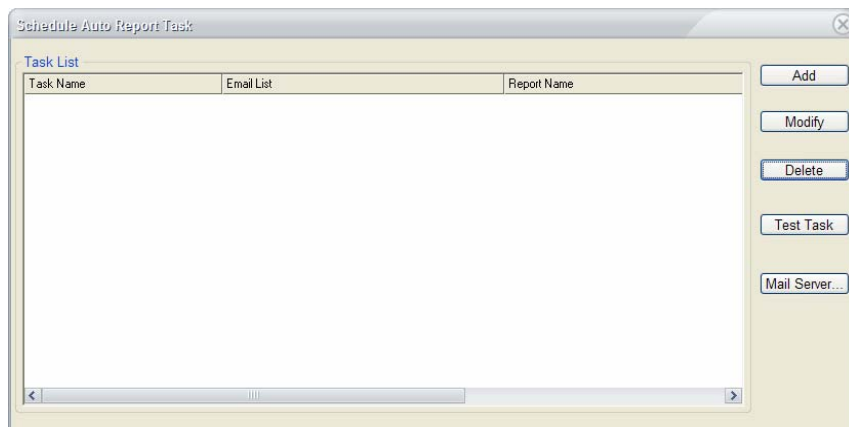

Figure 11-8: Auto Report Task List
- 1) From the Console, click **Manage>Auto Report Task....** The Schedule Auto Report Task window appears. See Figure 11-8.